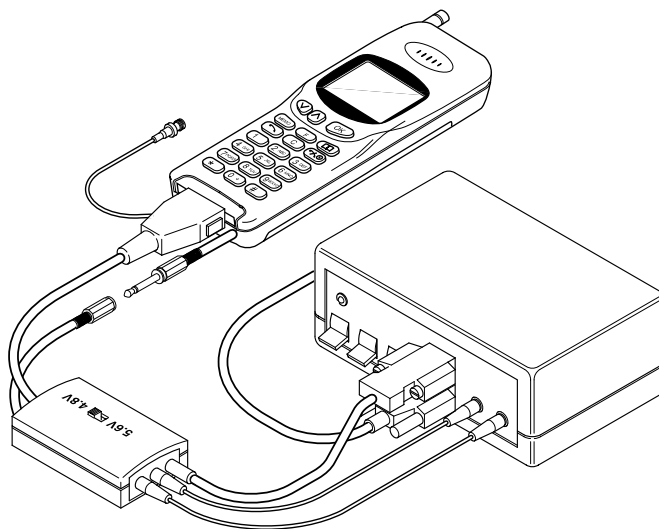

Figure 6: Interface Unit
To allow accurate measurement of the complete unit the test equipment must be connected as shown (figure 6). The PCB Test Setup must be used to enable repair to PCBs. Once repair/replacement is complete, the assembled unit must be tested and calibrated with the jigs and tools connected as shown in figure 6.
Figure 6 shows a typical setup for testing the G500 unit. The channel box software (supplied on floppy disk) should be installed onto the main drive of the personal computer.
1. (Figure 6) Connect the test equipment into test mode configuration.